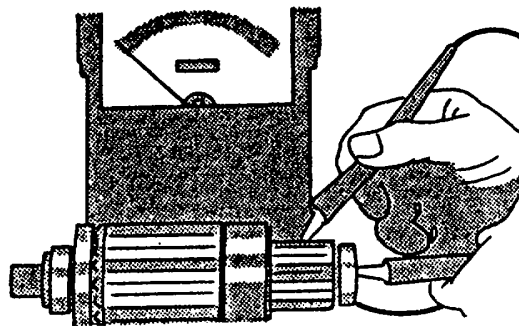

FIGURE 3-34. Testing for Grounded Windings
- b. Set multimeter for ohms and touch one probe to a commutator segment and other one to armature core, refer to FIGURE 3-34. There should be no continuity. If there is continuity, armature is grounded. Replace armature if grounded.